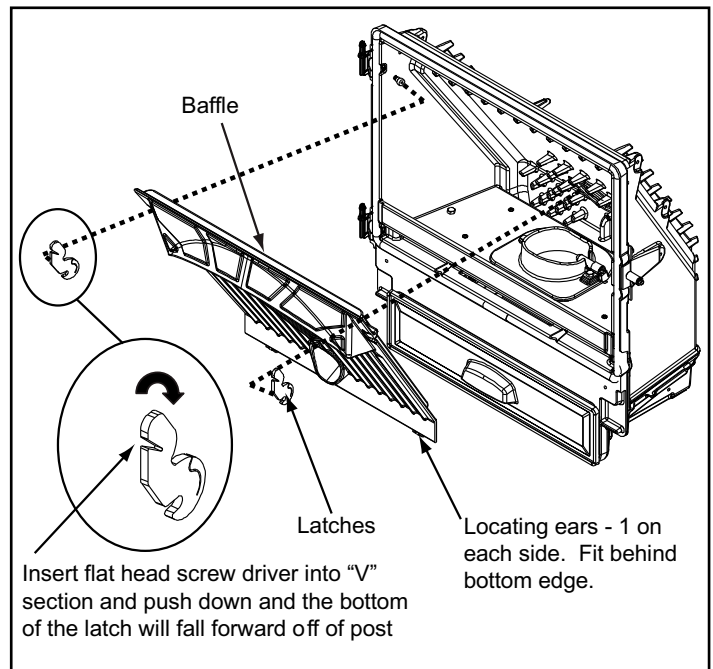

Figure 35.2
- d. Remove baffle by placing a flat head screw driver into the slot of the latches located in the upper corners and push down. The bottom of the latch will fall forward off of the post. Lift the baffle up and then out toward you. **Figure 35.2.**